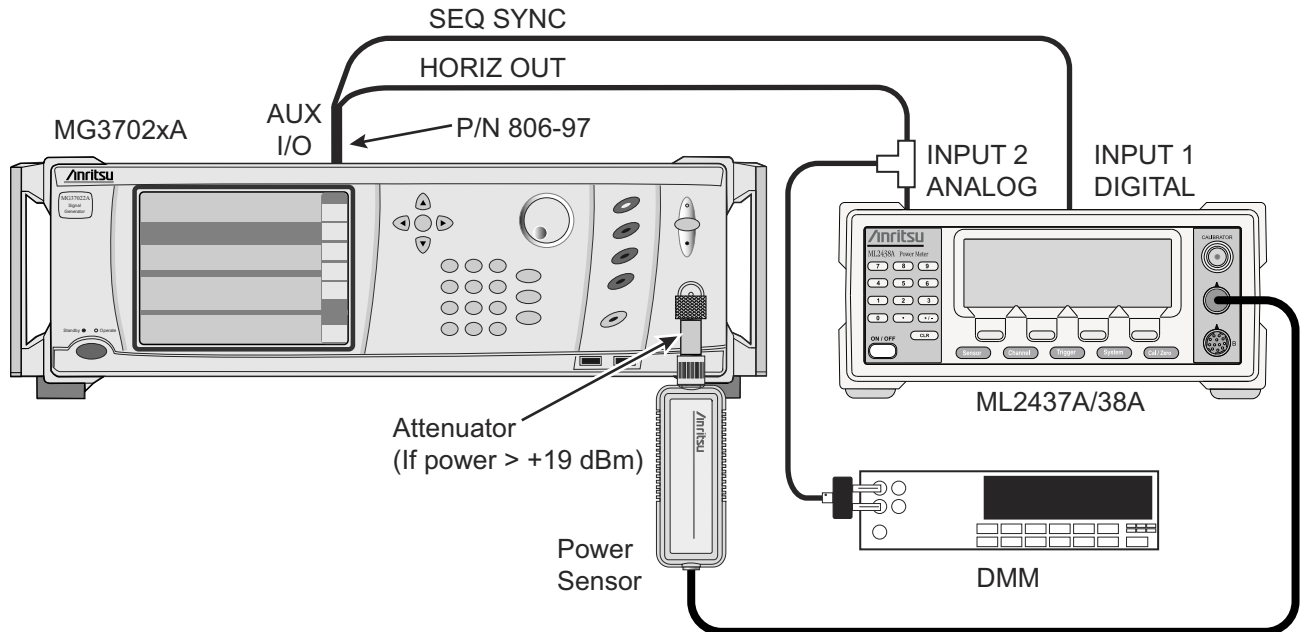

Figure 3-12. Equipment Setup for Flatness Tests and Maximum Levelled Power Test
2. Connect the equipment as shown in Figure 3-12 on page 3-29.